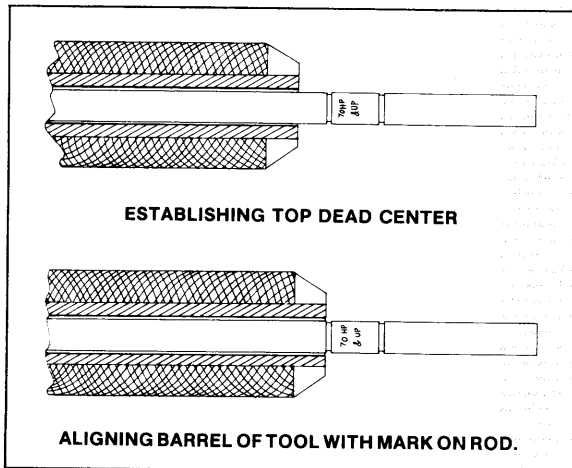

Figure 4—Location Top Dead Center
- D. Insert rod portion (Special Tool T2937A) of timing tool in barrel with two (2) marks identified as "70 H.P. and Up" towards the outside.
- E. Holding the rod tight against the piston, rotate crankshaft in direction of engine rotation and locate top dead center (point at which piston is closest to cylinder head or point at which marks on rod extend furthest away from barrel). See figure 4.
Screw barrel of the timing tool in or out as required until inside line of the timing rod lines up with edge of barrel as shown in figure 4.